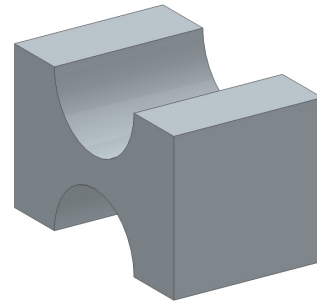

Figure 2-61 The final extruded model
3. Enter **40** in the edit box and press Enter; the extruded feature is created, as shown in Figure 2-61.